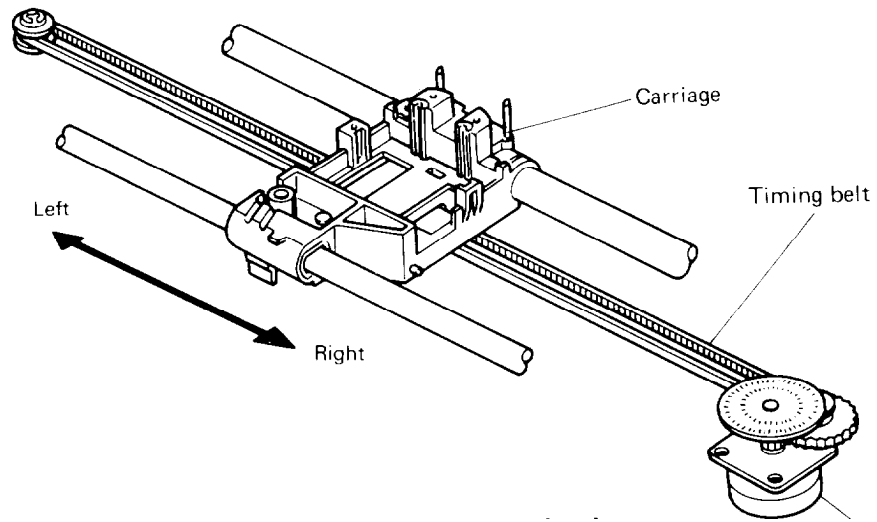

Fig. 2.43 Carriage mechanism
1) Carriage assembly (Fig. 2.43)